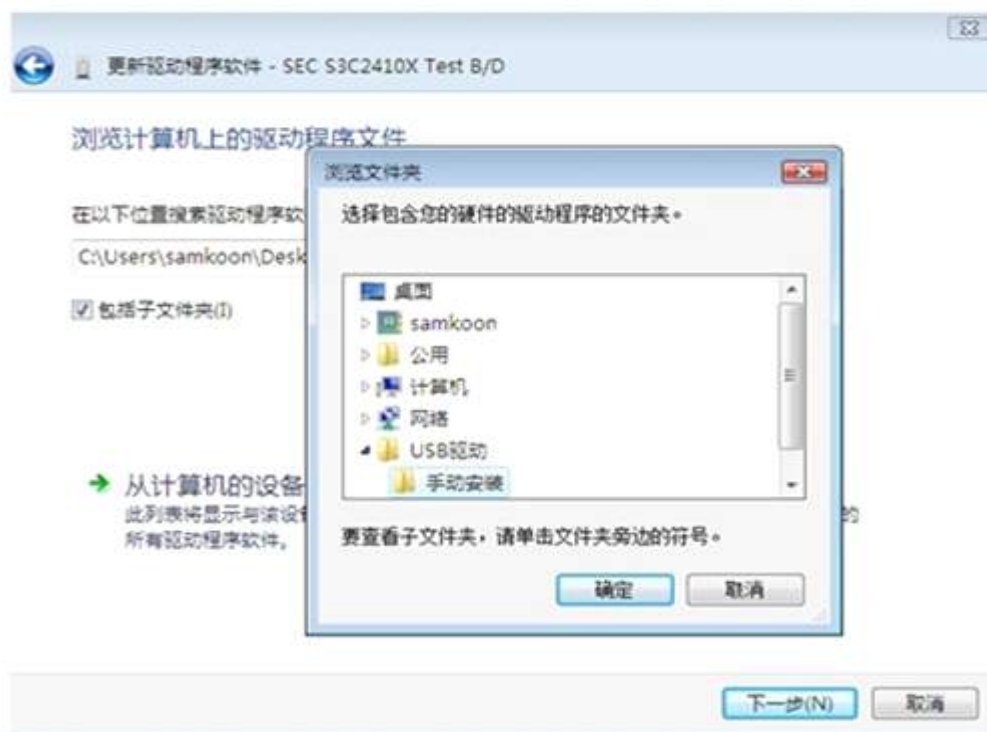

Figure 2-20: Manual installation selecting page of VISTA
- Then, view “Manual installation” directory, and click “next”. See Figure 2-20.